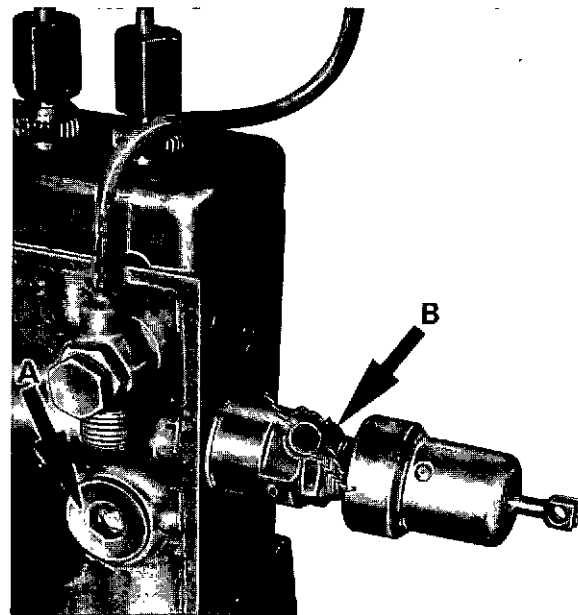

Fig. 55 Tappet access plug 'A'. Rack stop locknut 'B'.
- (ii) Unscrew the access plug to No. 1 tappet (see fig. 55, Item 'A') and turn the camshaft until No. 1 tappet is approximately at BDC.
- (vi) Remove measuring rig 1 688 130 085, together with its gauge, and refit the blanking plug (fig. 55, Item 'A').
Adjust, if necessary, by altering the setting of the rack stop. Referring to fig. 55, slacken locknut 'B' and screw the stop clockwise to reduce fuelling, or vice versa as required.